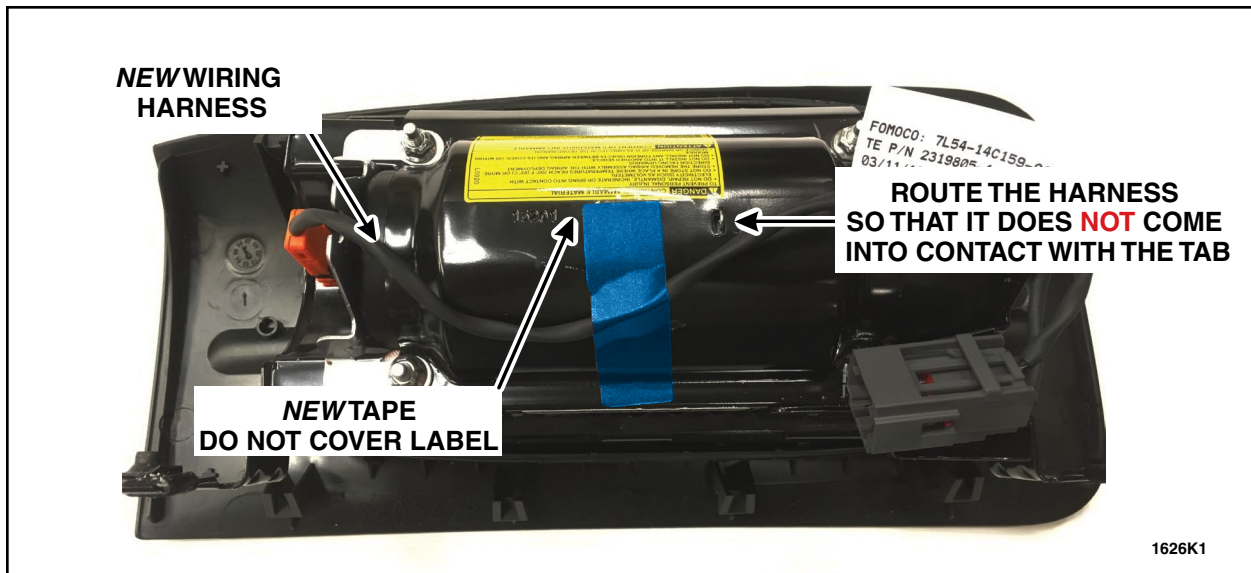

FIGURE 11
14. Install the *new* tape to the wiring harness and airbag assembly, do not cover the airbag warning label with the new tape. For correct placement See Figure 11.